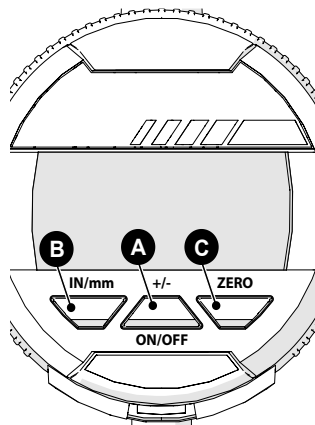

Fig. 6: Digital indicator
- ▶ Place the PIT GAGE on a known flat surface. Press the zero button (Fig. 6-C) holding the PIT GAGE in place for 2 seconds.
## 3.1. Digital Indicator (Fig. 6)